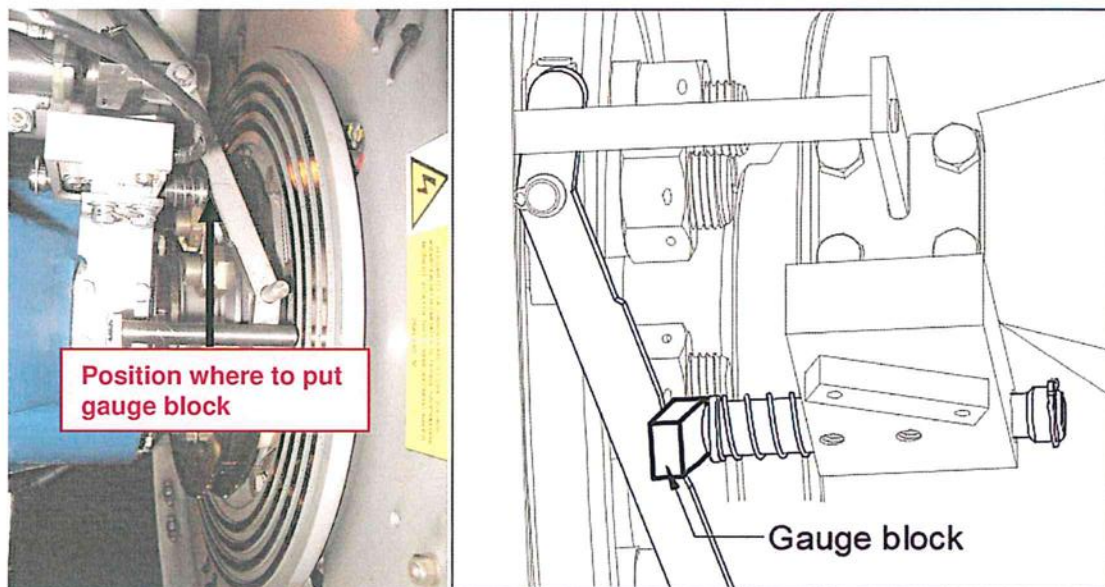

Fig. 6c – Adjustment of beta switch P-S-2 and P-S-2A by using gauge blocks
- d) Use gauge block between the cam and beta feedback lever, see *figure 6c*.